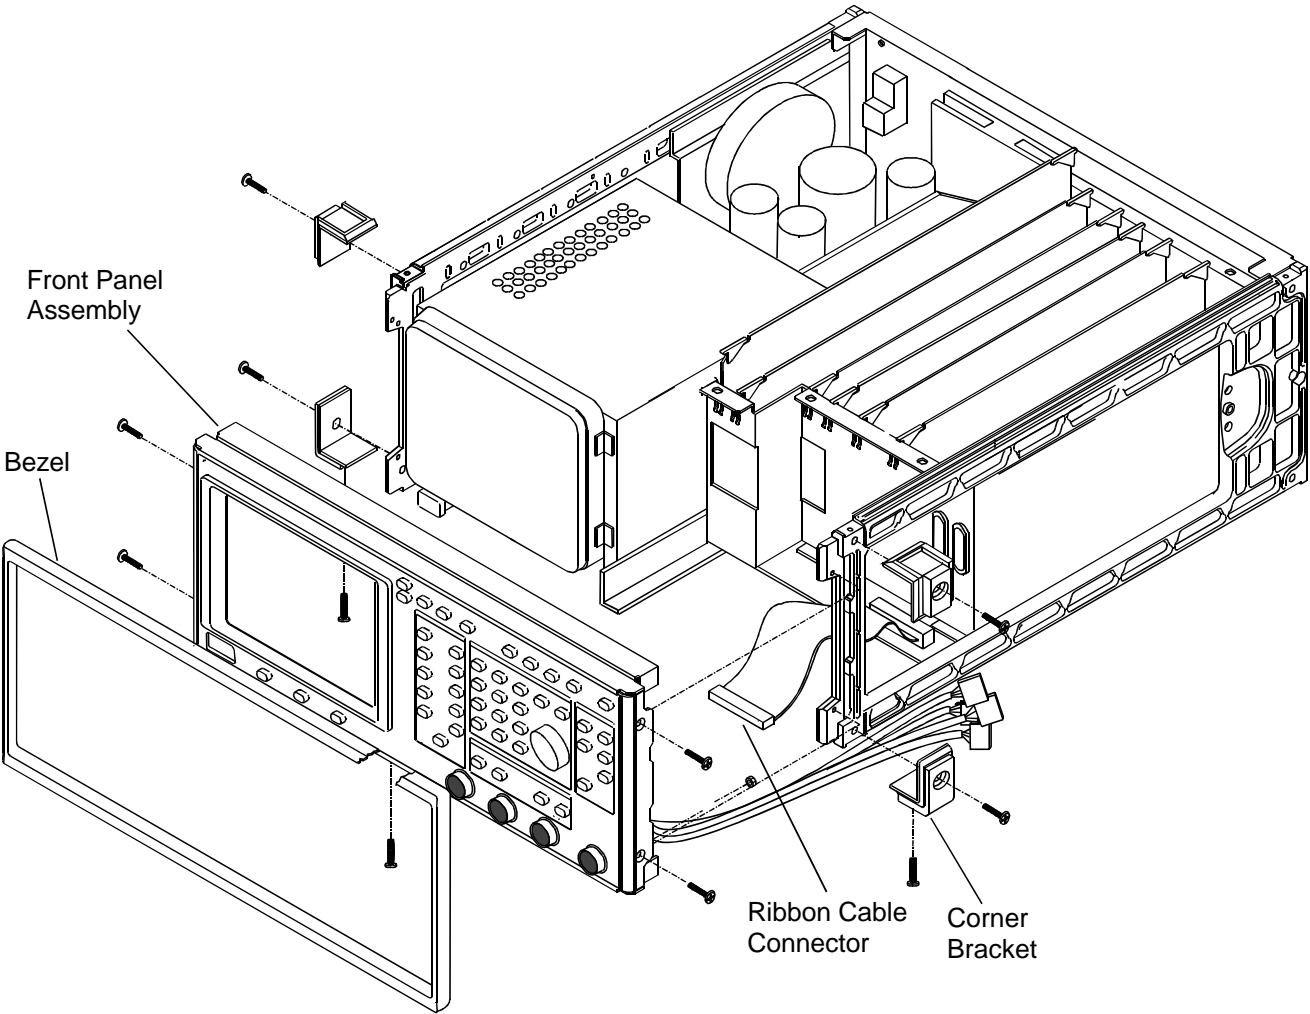

Figure 6-3. Exploded View of Front Panel Assembly
- Step 1.*** Orient the 56100A as appropriate to remove the four corner brackets and tilt bail from the front of the 56100A (Figure 6-3).